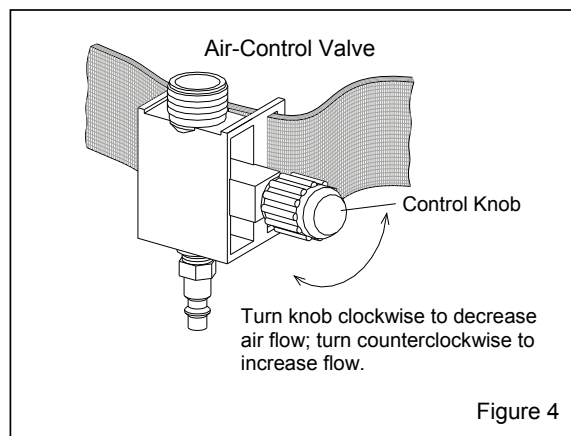

Figure 4
**6.2 Air-Control Valve, alternate, Figure 4**